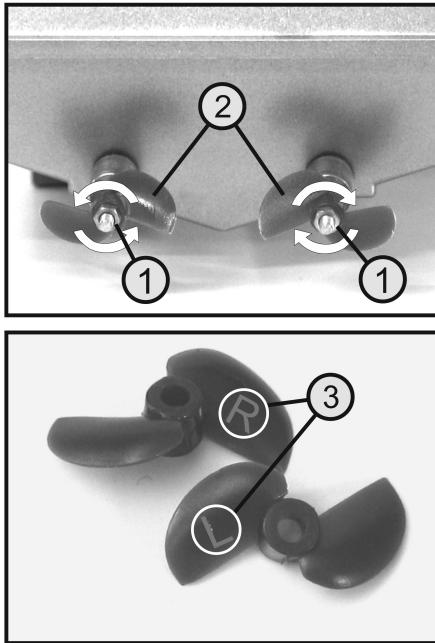

Figure 12
Remove the locking nut (1). To remove the nut on the left propeller, turn it to the left. To remove the nut on the right propeller, turn it to the right (see arrows in Figure 12).